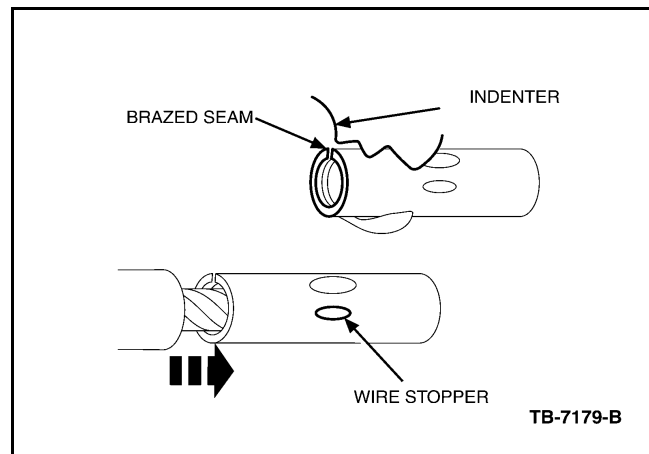

Figure 8 - Article 05-18-7
- Center one (1) end of the butt splice on the appropriate crimping chamber. If visible, be sure to place the brazed seam of the butt splice toward the indenter (Figure 8).
- Hold the butt splice in place and squeeze the tool handles together until the ratchet engages sufficiently to hold the butt splice in position (typically one (1) or two (2) clicks). DO NOT deform the butt splice.
- Insert stripped wire into the butt splice, making sure the insulation on wire does not enter the butt splice (Figure 8).